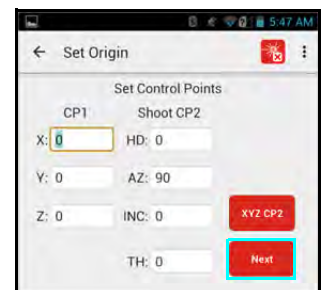

Figure 35
1. Tap [HD AZ CP2] to set CP2 using the laser to automatically enter the location (Figure 35).